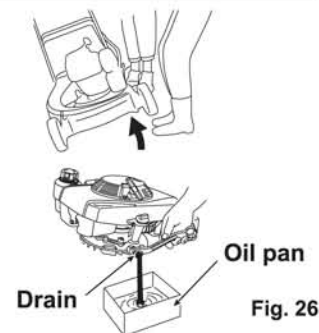

Fig. 26
2. Drain the engine oil from the drain port. (See Fig. 26)